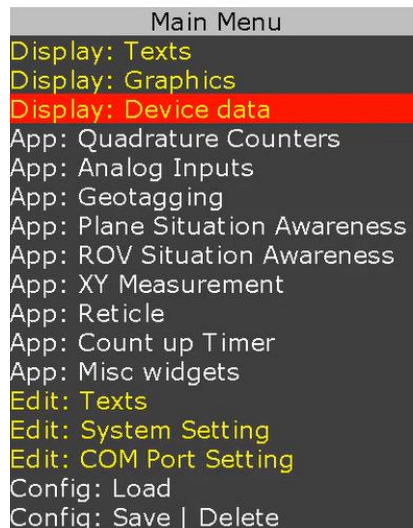
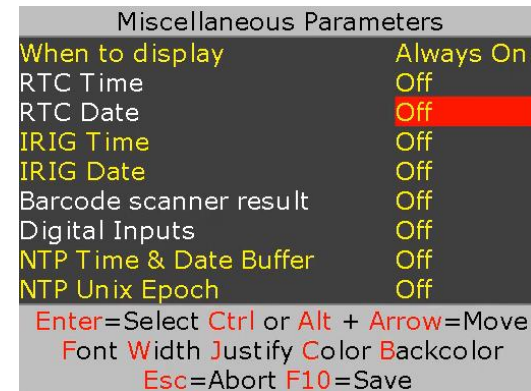

Figure 3
Figure 5
2. Follow *Figure 3 - Figure 5* to insert the desired parameter
3. On *Figure 5*, use \updownarrow arrow keys to select "RTC Time"